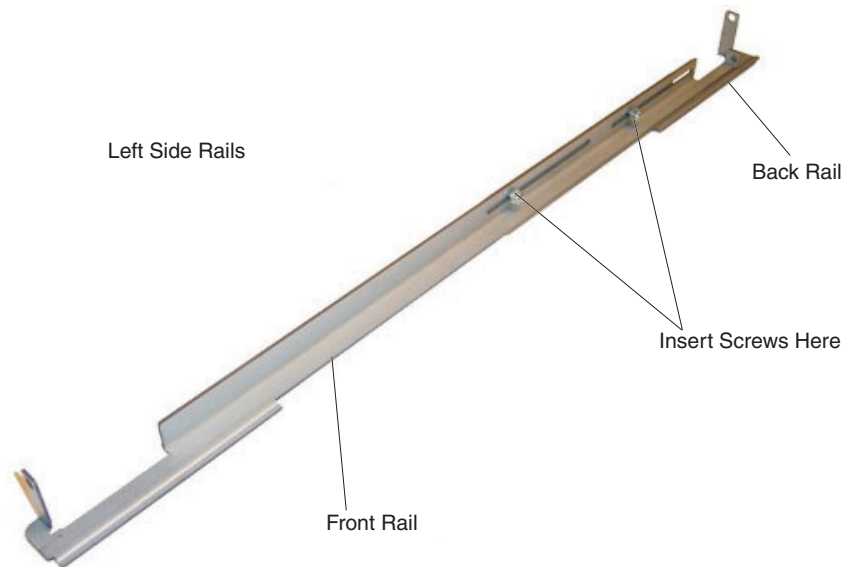

Figure 6. Assembling the left side rail
- ___ 2. Locate the front and back rails for the left side. Position the rails as shown in Figure 6, with the front rail on top of the back rail. Spread the rails to the distance that you measured in 1.
- ___ 3. Using a #2 Phillips screwdriver, attach the rails together with two M5 screws (the larger silver screws from the kit), as shown in Figure 6. Leave the screws loose so that you can adjust the reach of the rails, if necessary.